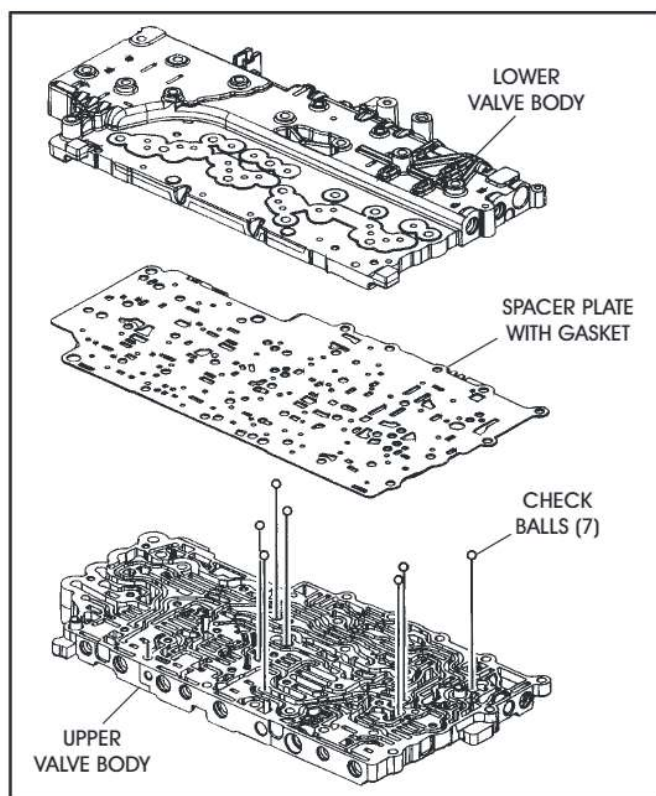

Figure 139
6. Remove the remaining bolts retaining lower and upper valve bodies and separate the two, as shown in Figure 139.